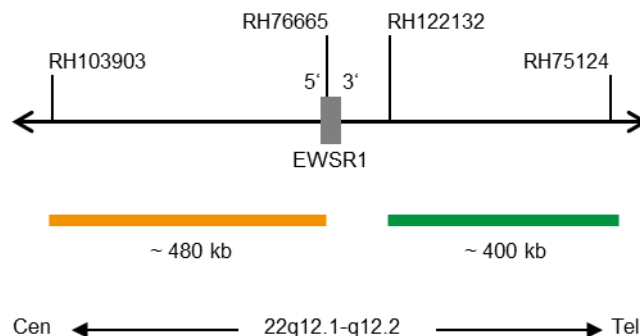

Fig. 1: SPEC EWSR1 probe map (not to scale)
- ZyGreen (excitation 503 nm/emission 528 nm) labeled polynucleotides (~10 ng/μl), which target sequences mapping in 22q12.2\* (chr22:29,779,841-30,179,900) distal to the EWSR1 breakpoint region (see Fig. 1).
- ZyOrange (excitation 547 nm/emission 572 nm) labeled polynucleotides (~4.5 ng/μl), which target sequences mapping in 22q12.1-q12.2\* (chr22:29,191,431-29,673,440) proximal to the EWSR1 breakpoint region (see Fig. 1).